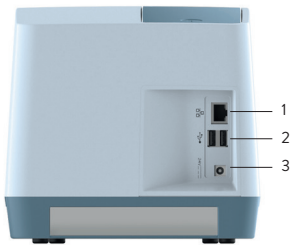

Figure 3
- 2 Insert the plug from the power supply into the power socket (Figure 3) in the back of the analyzer.
- Optional External Battery – for alternative to power supply without connecting to a wall outlet. For additional information on the external battery, refer to the quick reference guide that comes with the battery pack for instructions. This external battery pack connects to the power socket indicated in Figure 3 above.